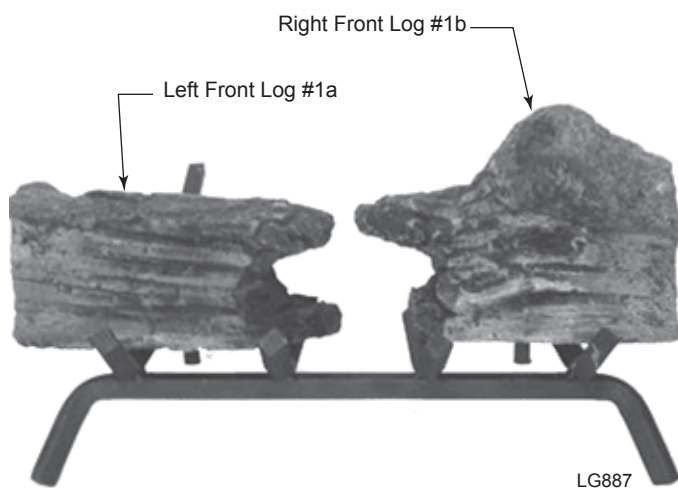

**Figure 73 -
2. Place Left Front Log #1a on front left of grate. *Figure 73*
3. Place Right Front Log #1b on front right of the grate. *Figure 73*